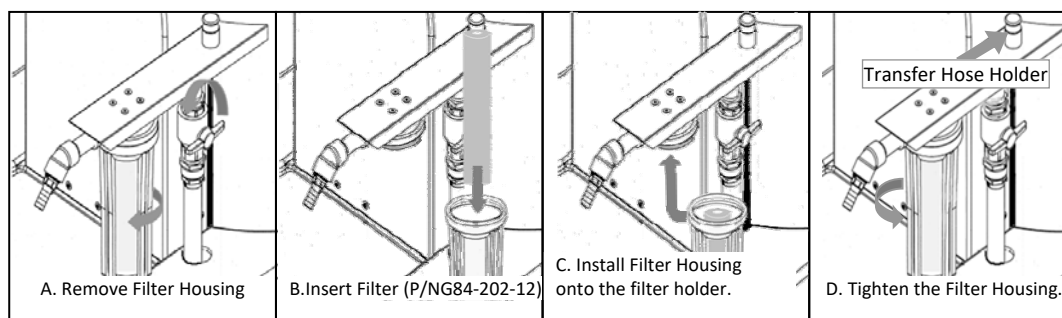

Figure 18
12. Remove Filter Housing and drain all residual water from the Housing. Install new Filter and tighten Filter Housing into place. See Figure 18.